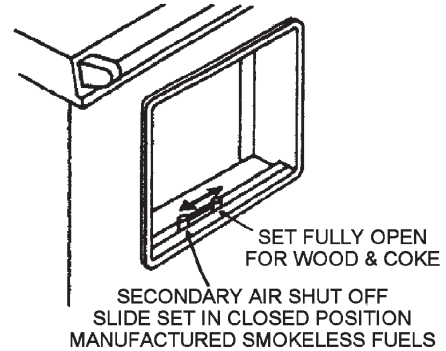

Fig. 10
- With fire established, open firebox door and fill firebox with fuel. Check secondary air slide setting (Fig. 10). **Close and lock firebox door.** Push flue chamber damper back to position which has been found to give desired burning rate.
Lift off the clinker door (See Fig. 10) and insert a hooked poker to draw out any offending accumulation. Replace clinker door after use.